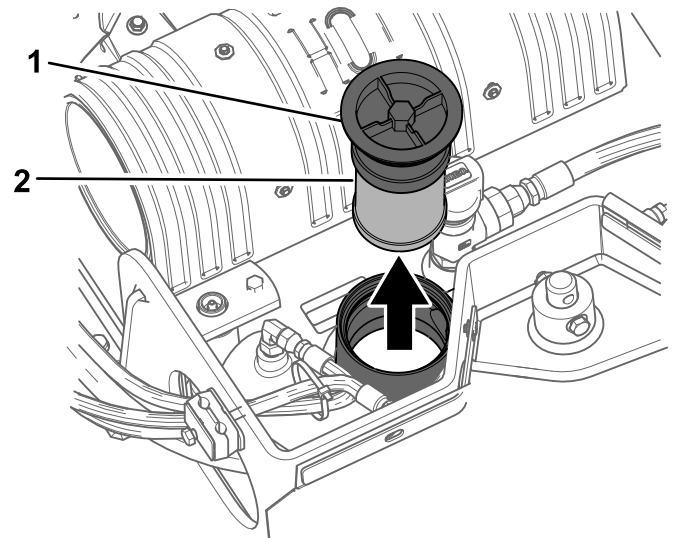

Figure 59
5. Clean the area around the filler neck of the hydraulic tank and remove the cap and filter from the filler neck using a socket (Figure 59).
4. Remove and discard the old filter (Figure 59).
5. Install the replacement hydraulic filter and filler cap (Figure 59) and torque the bolt on top to 21 to 25 N·m (200 to 240 inch-lb).
5. Remove the hydraulic-tank filler cap and filter (Figure 59).
10. Install the hydraulic filter and filler cap (Figure 59) and torque bolt on top to 21 to 25 N·m (200 to 240 inch-lb).